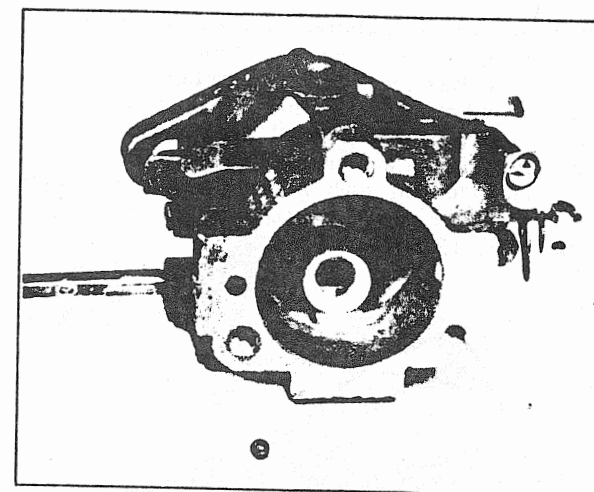

FIGURE 10
- Remove the choke shaft carefully as the friction ball and spring can 'fly out' of the carburetor casting. (Fig. 10).